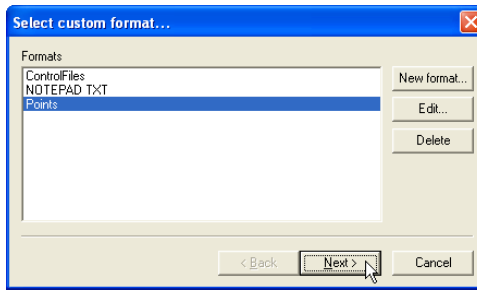

Figure 3-4. Select Format Type
2. On the *Select custom format* dialog box, select the format type and click **Next** (Figure 3-4). See “Creating Custom Import/Export Formats for Text Files” on page 2-13 for details on creating or editing import formats.